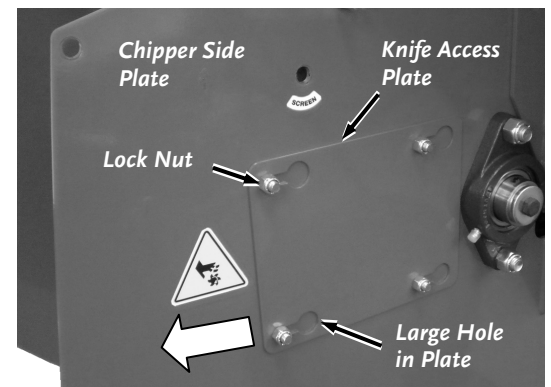

Figure 43
7. Loosen the four Lock Nuts that hold the Knife Access Plate to the Chipper Side Plate, using a 1/2" Wrench (**Figure 43**).
19. Reinstall the Knife Access Plate (**Figure 43**).